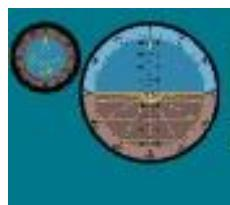

Fig. 4.10. The Cockpit Style View icon in the IMU Visualization window of the IMU GUI
- **Cockpit Style View** – visualization style shown in Fig. 4.10 (see below for details).